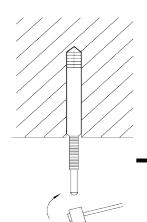

Fig.4.4
- (2). Insert the anchor bolts into the drilled holes, and drive the pins completely into the anchor bolts with a hammer (Fig. 4.4).